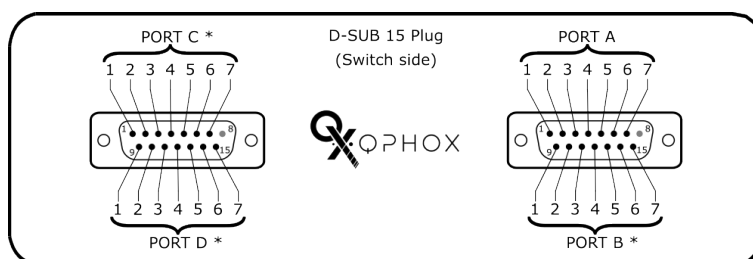

Figure 3: Output side
- Selecting between ports (A, B, C, D), connect output pins 1-7 of the controller D-SUB-15 socket to matching input pins 1-7 of the desired switch. Refer to figure 3 (Switch side).